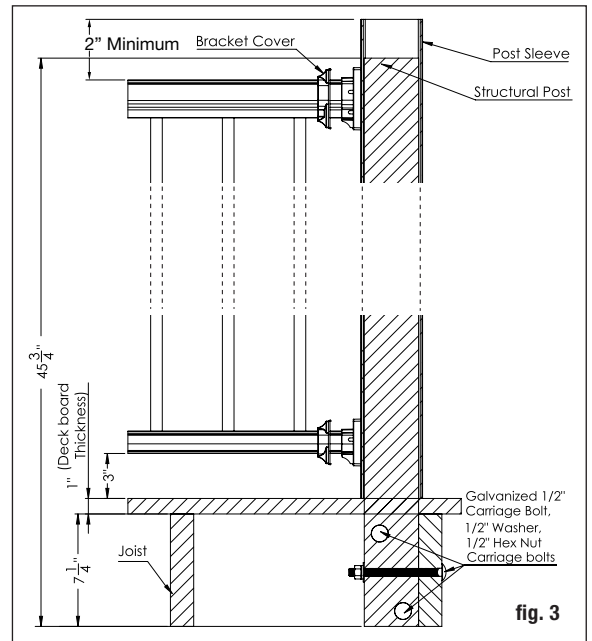

fig. 3
Step 2 Install railing posts prior to installing deck boards. 4 x 4 Cedar or pressure treated pine railing posts or structural post mounts (item #215036, sold separately) provide the strength for the railing. Note: structural post mounts should be used for installation on concrete. The length of each post is determined by the total of the joist width (typically 7-1/4") + decking thickness (1") + railing height (36") + spacing for post cap (2") = 46-1/4". **Important: Do not notch the 4x4 railing posts. Notching will reduce the strength of the post and could result in railing collapse or failure (fig. 3).**
Step 3 Position, plumb with a level, and clamp the railing post on the interior face of the joist. Plumb again. The 4x4 railing post should be bolted to the inside of the joist using two 1/2" galvanized carriage bolts, washers and nuts. Corner posts use a third carriage bolt, washers and nuts inserted through the adjacent joist (fig. 3).
Step 5 Trim 4x4 post sleeves to length. Post sleeves should be a minimum of 2" longer than the railing height (fig. 3). Example: For a 36" high railing, trim post sleeve to a minimum of 38", can be left longer if desired.
Important: Do not notch the 4x4 railing posts. Notching will reduce the strength of the post and could result in railing collapse or failure (fig. 3).